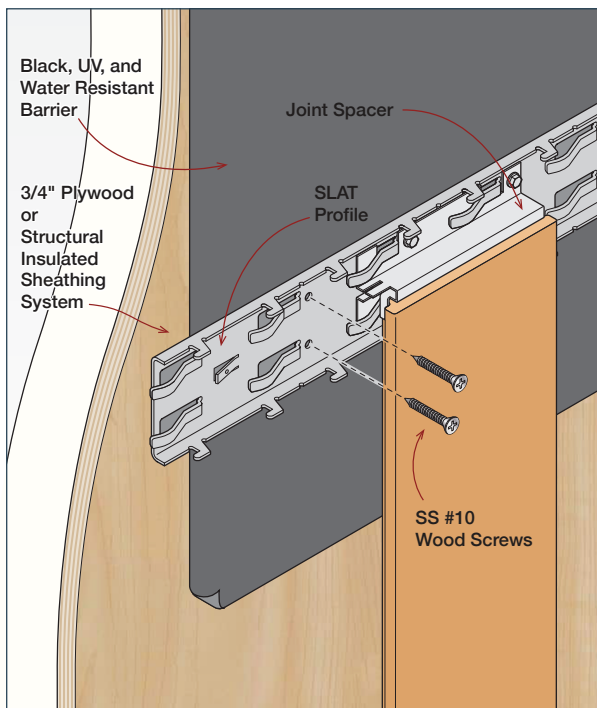

FIG. V1
- (AFC's Recommendation) Attach 3/4" Pressure Treated Plywood or other structural sheathing. (FIG. V1 & V2)
- Plywood Attachment (**FIG. V1 & V2**), SLAT profile runs horizontally): Use a #10 stainless steel wood screw (BY AFC)